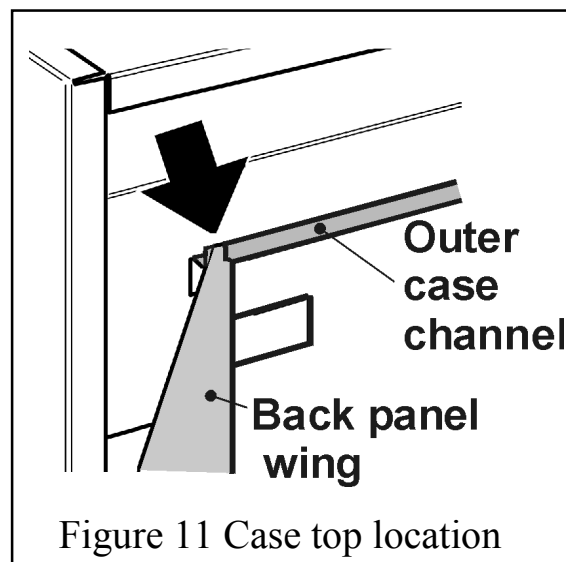

Figure 11 Case top location
- Place the case over the engine. Make sure that the channel near the top of the rear of the outer case locates fully into the wings of the engine back panel. See figure 11.
**11.2.4.** Replace in the reverse order. Make sure that the channel near the top of the rear of the outer case locates fully into the wings of the engine back panel. See figure 11 in the installation section.